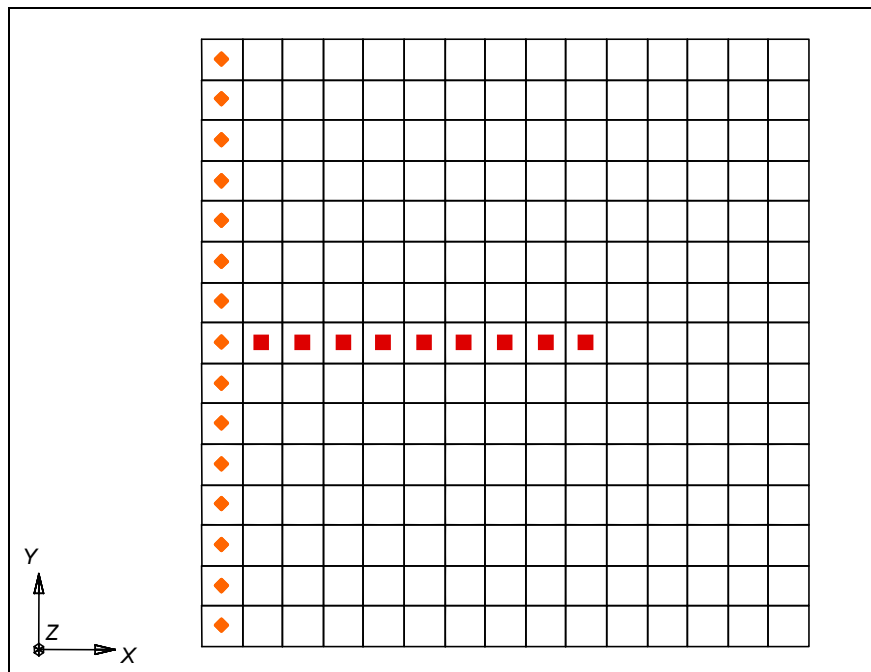

Figure 4. Cells to be Selected.
4. Hold down the *Shift* key to invoke the multi-select mode and select the cells on columns 3-10 of the same row as the cell you have already selected (Figure 4).